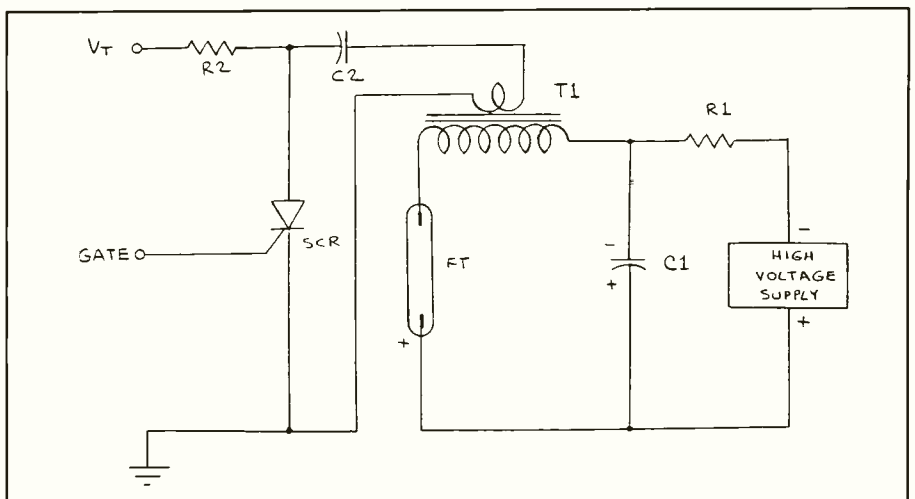

Fig. 9. Series-triggered xenon flashtube circuit.
• *Series Triggering.* Figure 9 shows a series-triggered flashtube circuit. Here the high-voltage pulse required to ionize the xenon inside the flashtube is applied directly to the tube's electrodes, not a separate trigger electrode.